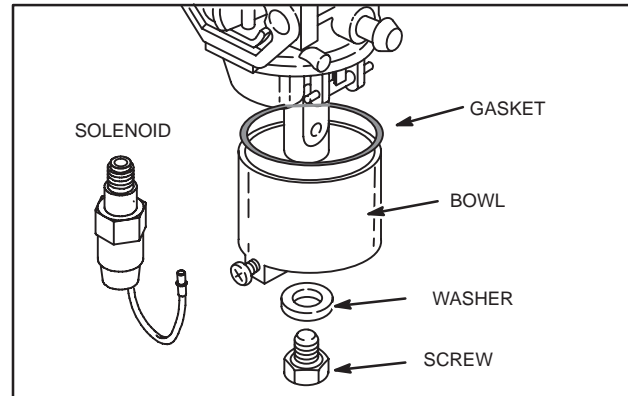

Fig. 19 – Install Float Bowl
5. Install gasket and float bowl, Fig. 19.